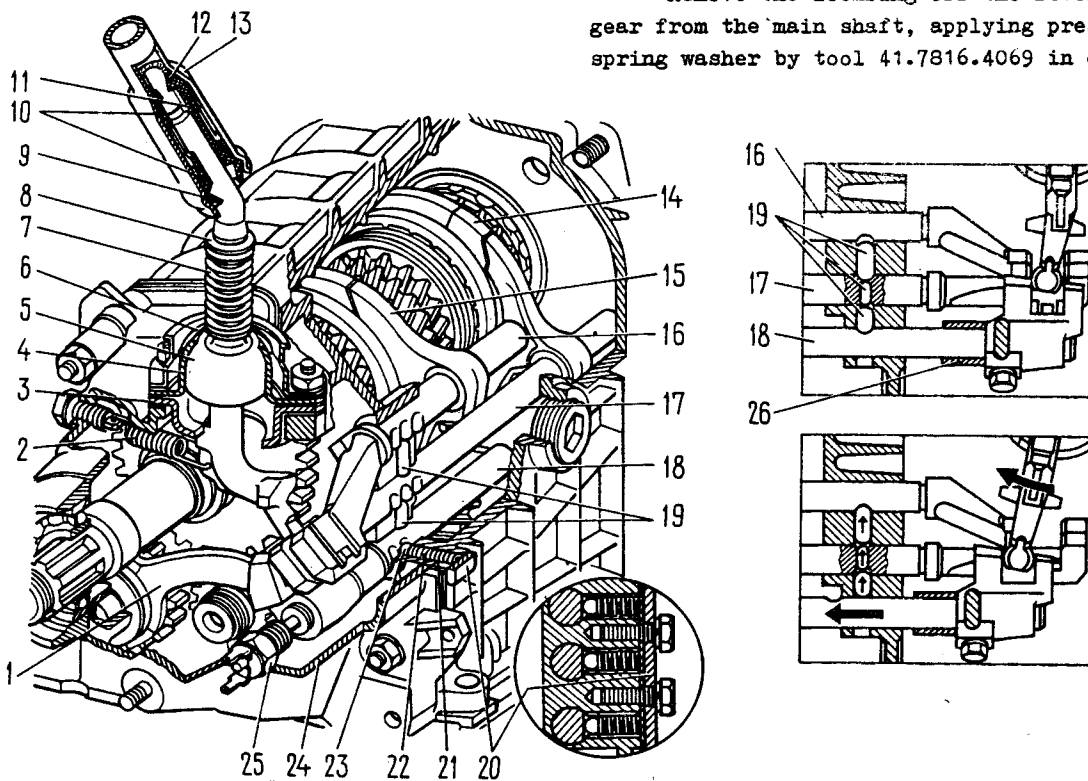

Fig. 3-22. Gearbox Control Mechanism:
Take off shift rail detent cover 20 (Fig. 3-22) complete with the gasket, remove reverse shift rail 18 and 3rd and 4th speed shift rail 17 from the gearbox housing. Unscrew the bolt of 1st and 2nd speed shift fork, take out the shift rail and
- spring 22 (Fig. 3-22) of the detent ball of the reverse shift rail differs from other springs in its resilience; it is pointed green or is cadmium-plated, and since 1985 - black oxidized;